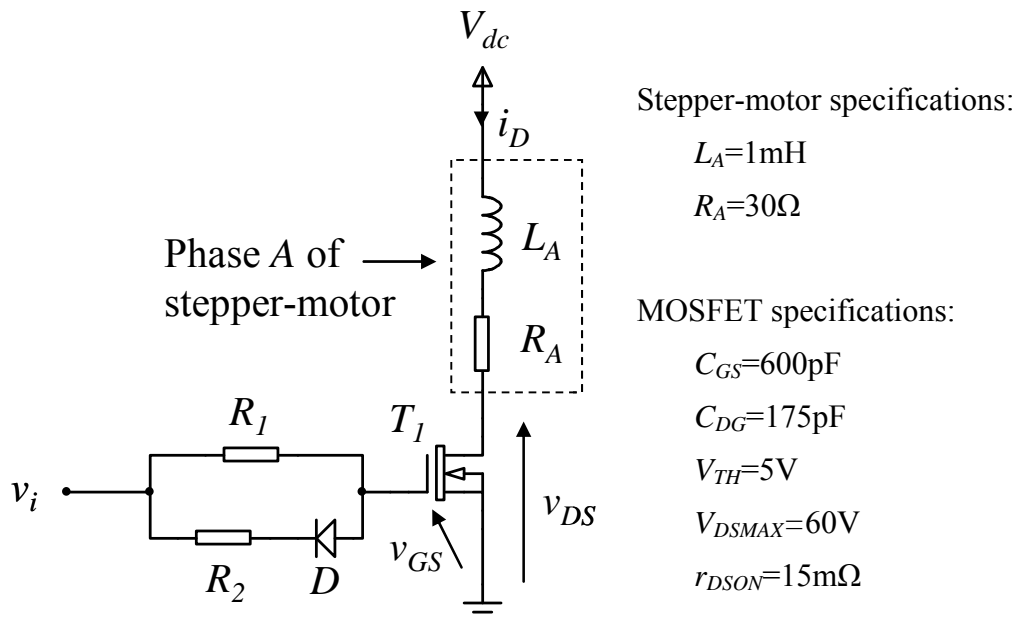

Figure 6: Stepper-motor drive system
- a. Draw the typical waveforms that one would expect to see over a complete cycle for the signals i_L , i_D and v_s . On your v_s waveform label the time period when S is on, V_{out} and V_{dc} voltage levels and on the current waveforms label the peak current I_{pk} . (6)
- b. Derive an expression for the output voltage V_{out} of the boost converter for a given switch on-time t_{on} . (4)
- c. If $t_{on}=12\mu\text{s}$, $R_L=10\text{k}\Omega$ and the switching frequency of S is 60kHz , what value of L is required to obtain the 200V output voltage required? (2)
- d. What is the peak current through L and what is the maximum energy transferred from L to C each cycle? (3)
- e. What output voltage would be obtained if the circuit was operated at the boundary between continuous and discontinuous current through L ? (5)
6. The circuit shown in Figure 6 forms part of a drive system for a 3-phase stepper-motor, where L_A and R_A represent the inductance and resistance respectively of phase A. The rotation of the motor is controlled by applying individual pulses to the phases A, B and C with the direction of rotation being controlled by the order in which the phases A, B and C are switched (i.e. ABC =forward ACB =reverse). The position of the motor is held constant by holding one of the phases active. In order to minimise the power dissipation in the motor each phase must be switched-off before another is switched-on, the components R_1 , R_2 , and D in Figure 6 fulfil this purpose.